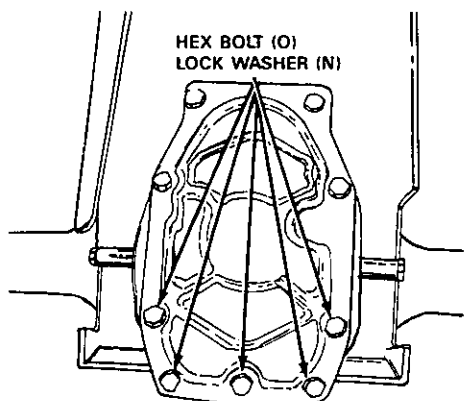

FIGURE 14
- Replace the hardware removed from rear plate of transmission in step 8 with five 3/4" long patch bolts (O) and 3/8" lock washers (N). See figure 14.